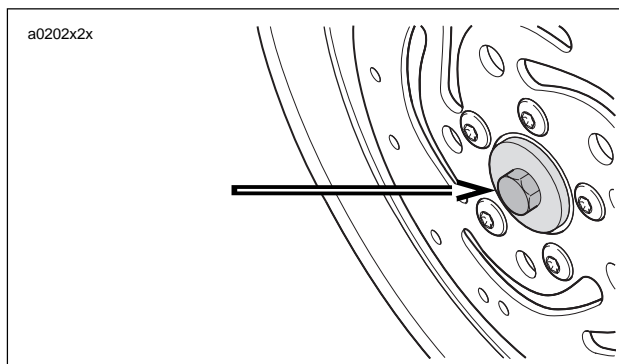

Figure 2-15. Installation Tool Support Plate
- b. See Figure 2-15. Place threaded rod through support plate. Insert assembly through wheel.